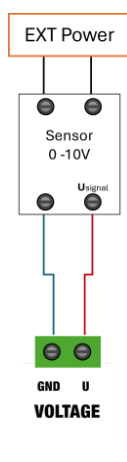

Figure 5: Voltage Sensor Connection (0–10 V)
- **Voltage Input (0–10 V):** Figure 5